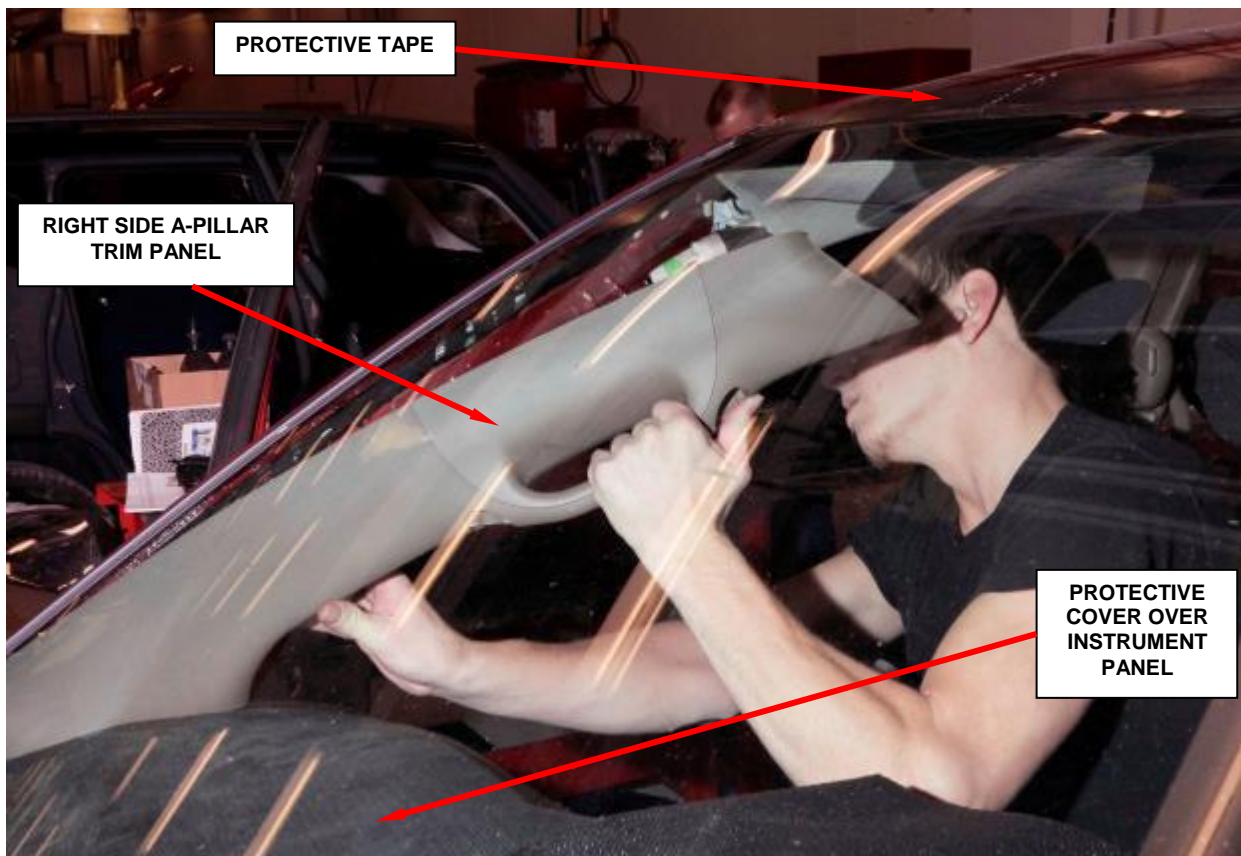

Figure 3 – Right A-Pillar Trim Panel
6. Apply protective tape to the painted roof surface at the top of the windshield (Figure 3).
7. Place an appropriate protective material over the instrument panel (Figure 3).
8. Remove the right and left side A-pillar trim panels (Figure 3).